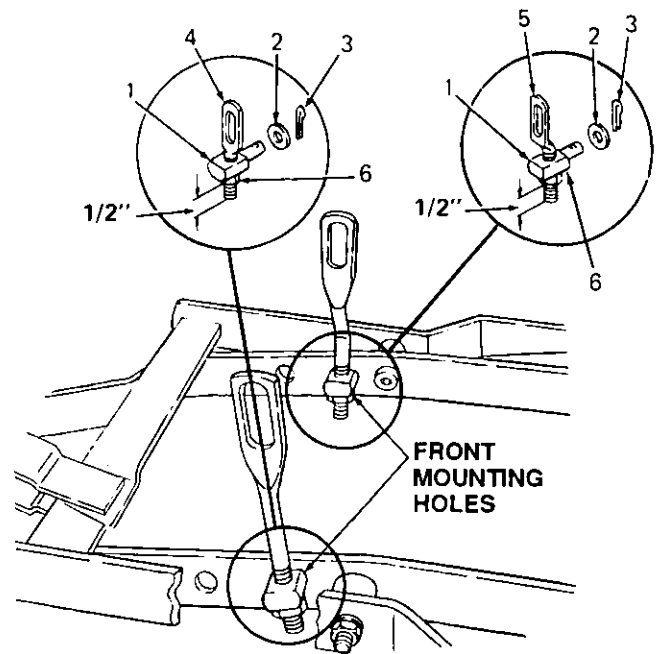

Figure 6
2. Place adjustable lift link and offset adjustable lift link in a ferrule and secure each lift link with a hex center lock nut until 1/2 inch of threads are visible at bottom of each lift link. Refer to Figure 6.
3. Install ferrule with adjustable lift link to right side of lift frame (in front mounting hole as shown) with lift link on outside of frame. Refer to Figure 6.
4. Install ferrule with offset adjustable lift link to left side of lift frame (in front mounting hole as shown) with lift link on inside of frame. See Figure 6.